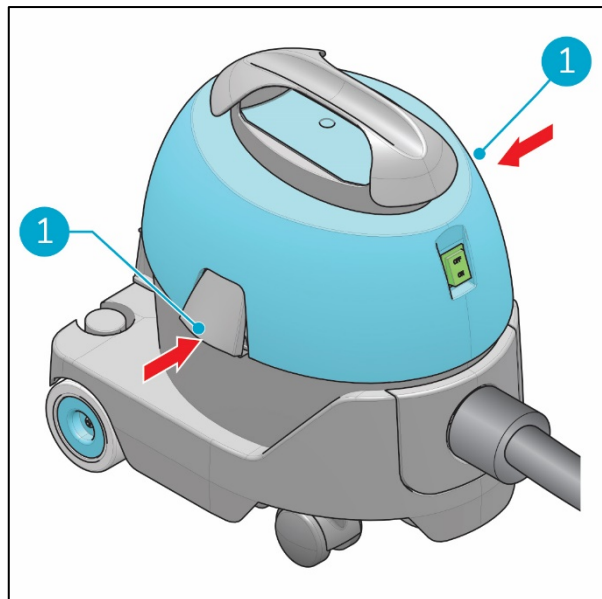

Figure 21
3. Fasten the latches (Figure 21, pos 1).